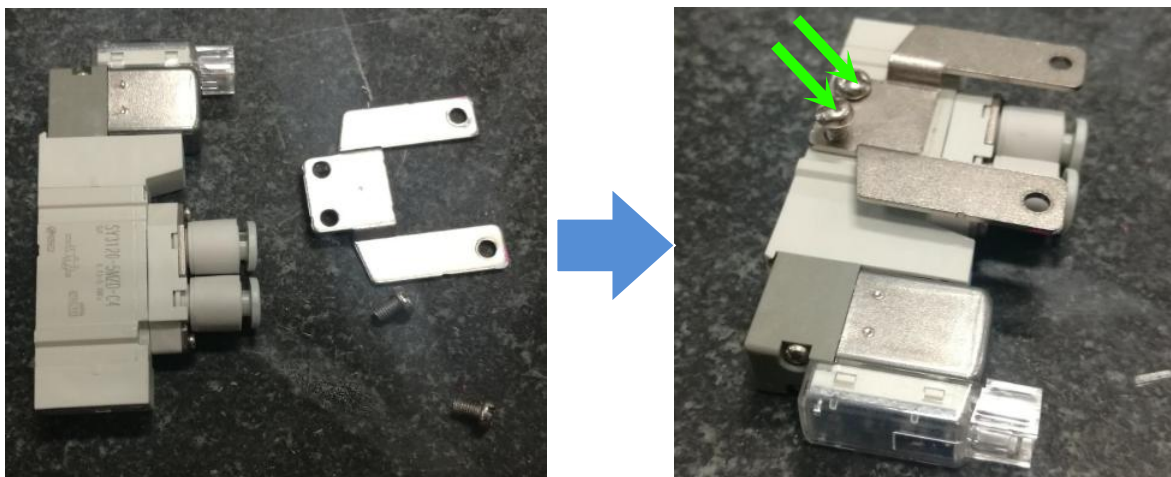

Figure 6 Holding Bracket Transplant
9. Remove the Holding Bracket from Left PIP Pneumatic Valve (Previously dismantled). Assemble the Holding Bracket to new “Safety Stop Pneumatic Controller Kit”. May refer to below Figure 6